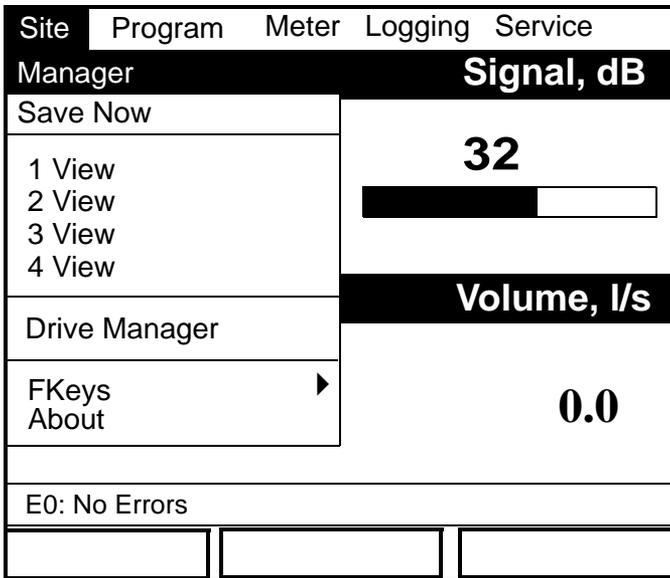
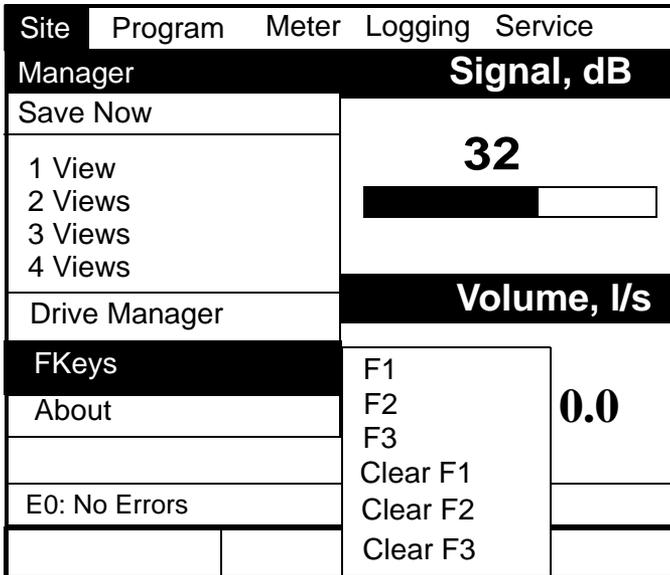
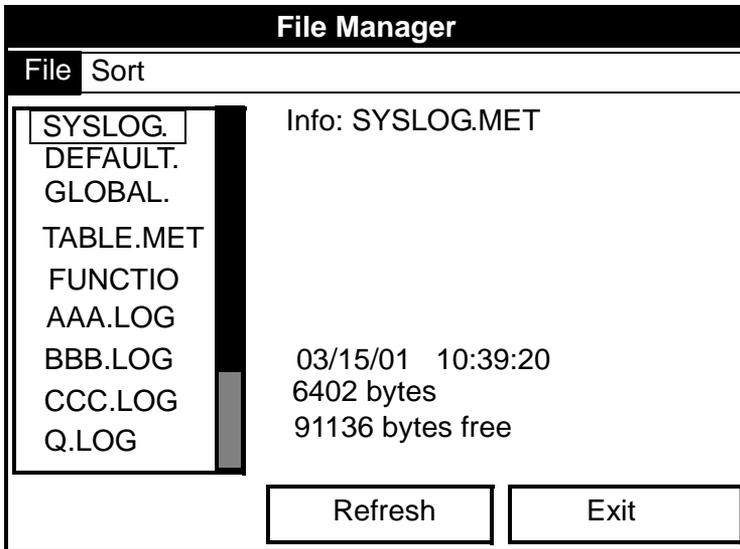

Figure 61: Site Menu
Figure 63: FKeys Menu
Figure 66: Drive Manager Window
To enter the Site Menu, press the [MENU] key at the lower right of the PT878 keypad. The Menu Bar replaces the Status Bar at the top of the screen. The Site Menu will be highlighted in the upper left corner. Press [ENTER] or the [▼] arrow key. The screen now appears similar to Figure 61 below. While following the programming instructions, refer to Figure 138 on page 221 of Appendix A, *Menu Maps*.
As mentioned earlier, the PT878 can display one to four different measurement parameters simultaneously. However, sometimes you might wish to display only one or two parameters. To change the number of open display windows from within the Site Menu (shown in Figure 61 on page 97), use the [▼] or [▲] arrow keys to move to the desired number of views (1 View, 2 Views, etc.) Press [ENTER].
- From the Site Menu (shown in Figure 61 on page 97), use the [▼] or [▲] arrow keys to move to the FKeys entry on the menu. Press [ENTER]. The screen now appears similar to Figure 63 below.
- From the Site Menu (shown in Figure 61 on page 97), use the [▼] or [▲] arrow keys to move to the FKeys entry on the menu. Press [ENTER]. The screen now appears similar to Figure 63 on page 99.
2. From the Site Menu (shown in Figure 61 on page 97), use the [▼] or [▲] arrow keys to move to the Drive Manager entry on the menu. Press [ENTER]. The screen now appears similar to Figure 66 below.